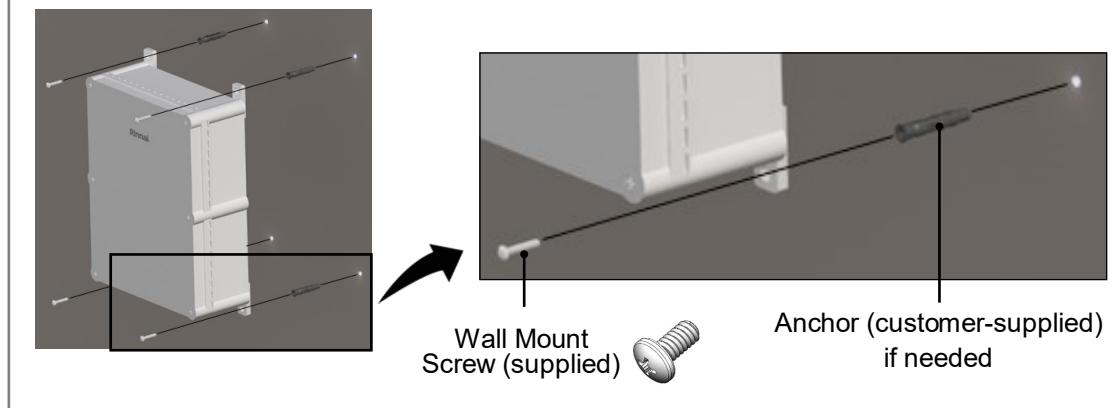

Fig 18. Mount the BMS Gateway to the Wall
3. Secure the BMS to the wall using the four supplied wall mount screws (Fig 18).